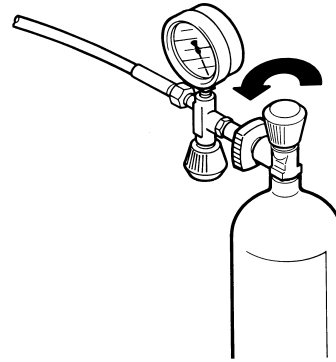

Fig. 9 Connecting air bottle
1. Connect air bottle to filling valve. See Fig. 9.